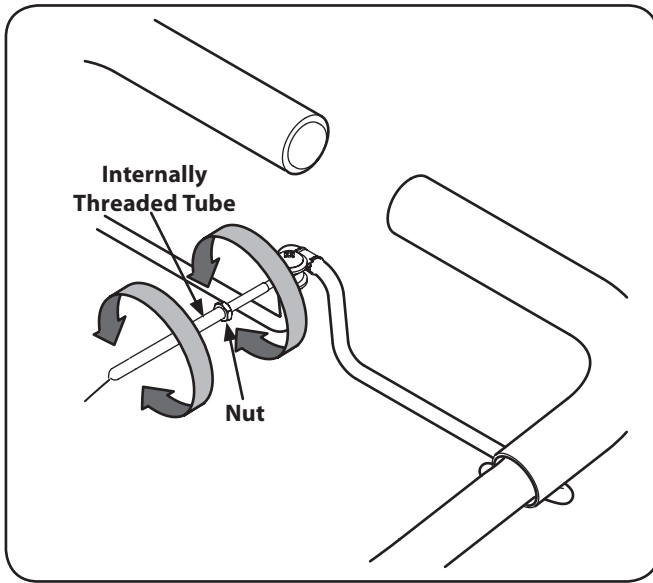

Figure 3-8
- Carefully engage the clutch by lifting the clutch control bail against the handle. The wheels should spin. If the wheels do not spin with the tiller in forward, adjust by un-threading the tube at the end of the cable a few turns counter-clockwise, when standing in the operator's position. See Fig. 3-8.